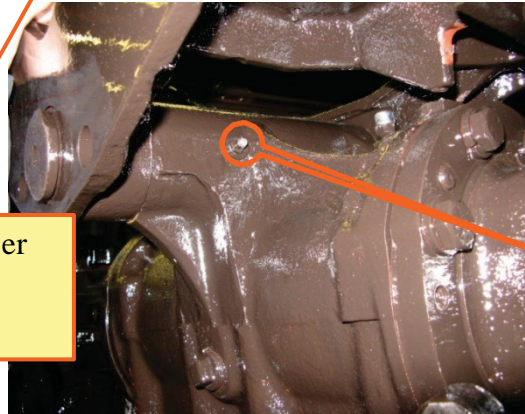

Figure 8.12
**Procedure 9a. Greasing the Pivot Points of the HPS Cylinders (fig. 8.12)**